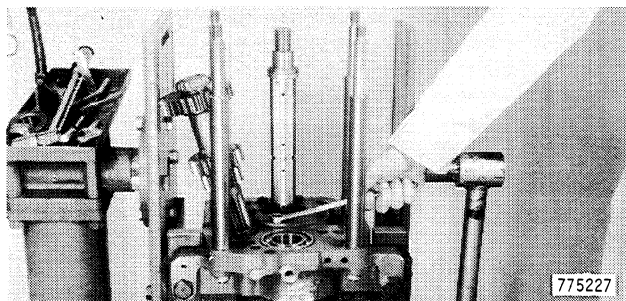

Figure 259
45. Remove bearing plate cap screws one at a time, Figure 259.